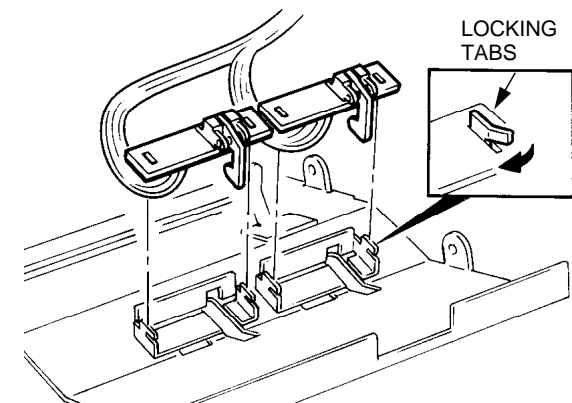

Figure 4. Document sensors/tabs
9. Remove the document sensors (figure 4).
*When straightening the locking tabs, use care not to break the spot welds (figure 4).*